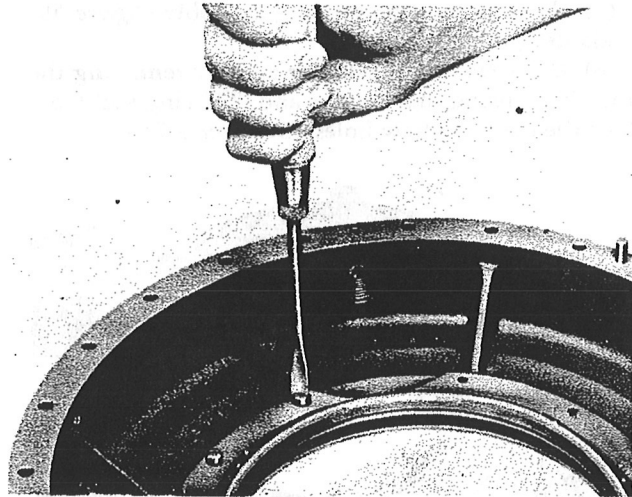

Figure 61—Removing Cover Bearing Screws
(12) Cut the safety wire and remove the cover bearing mounting screws. (See figure 61.)